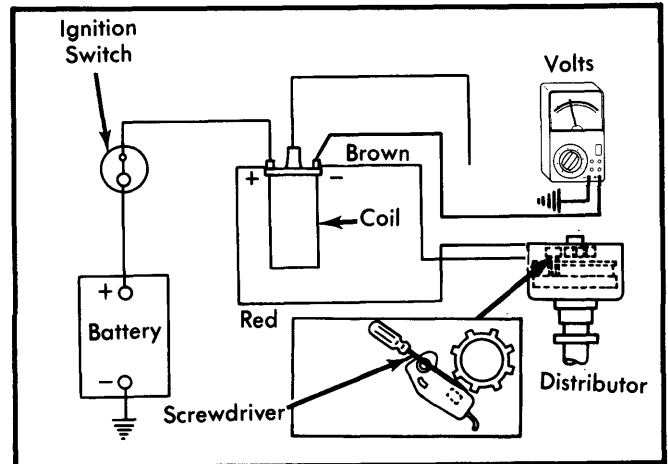

Fig. 7 Checking Electronic Control Unit Operation
1) Connect voltmeter positive lead to brown wire at coil negative terminal. Connect voltmeter negative lead to ground. See Fig. 7.